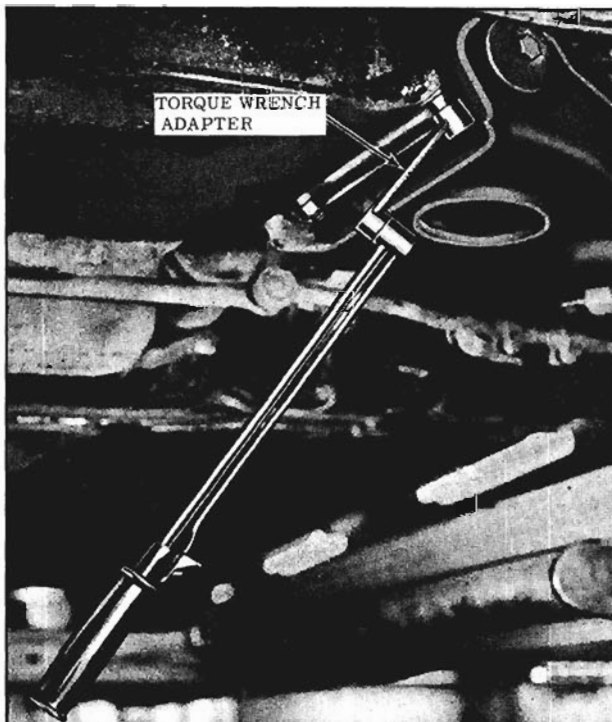

Fig. 9-19 Checking Pivot Shaft Torque
1. If the lower control arm was removed, connect control arm pivot shaft to frame cross member. Torque pivot shaft nuts 50 to 65 ft. lbs. using a torque wrench adapter. (Fig. 9-19)